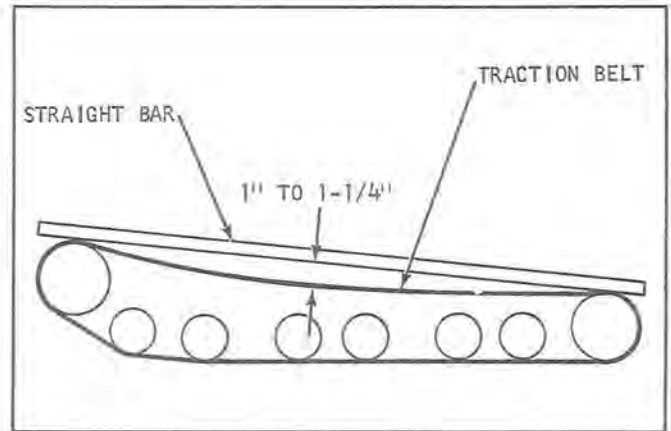

Figure 9
1. Release track tension by loosening adjusting bolts (1, figure 9).
2. Rest a straight bar of sufficient length along the top surface and near the edge of the track (see figure 9). Insert the straight bar through the back end of the sled and check for proper 1- to 1-1/4-inch sag. Repeat the procedure on the opposite side and note the difference, if any, in track tension.
2. Release track tension by loosening adjusting bolts (figure 9).
4. Remove the right- and left-hand adjusting angle nuts (1, figure 9).
3. Release track tension by loosening the adjusting bolts (figure 9).